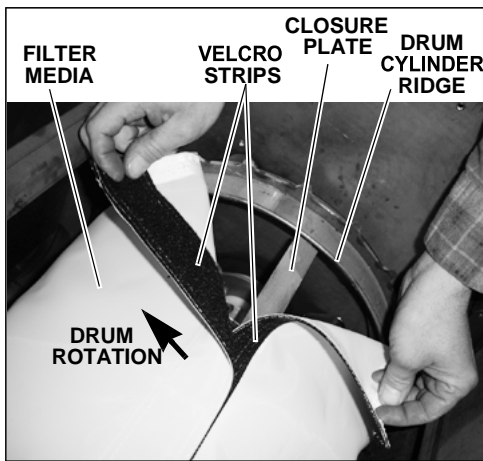

Figure 27. Media Being Removed/Installed on Drum
5. Rotate the drum until the Velcro strip securing the media edges is accessible. Pull the Velcro apart, Figure 27. The media is now loose and can be slipped around the drum and out one of the access openings.
2. Rotate the drum until the metal closure plate is accessible Figure 27. This plate provides a surface against which to close the Velcro strips.